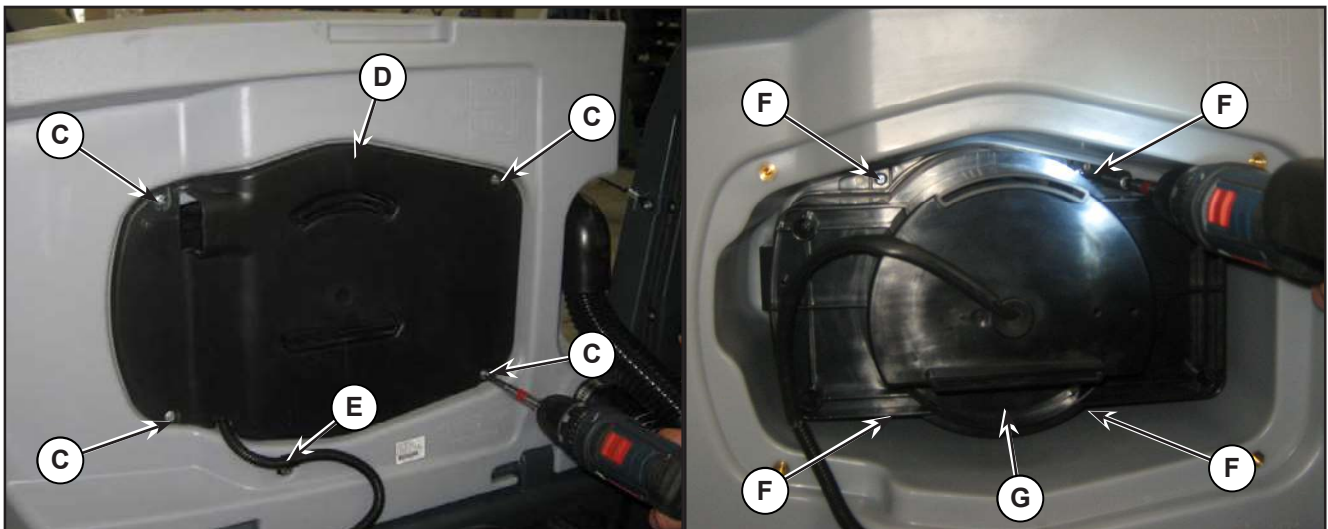

Figure 7:
5. Unscrew the 4 screws (C) (Figure 7) and remove the case (D).
6. Unscrew the screw (E) holding the vacuum motor wiring.
7. Unscrew the 4 screws (F) and remove the vacuum motor unit (G).